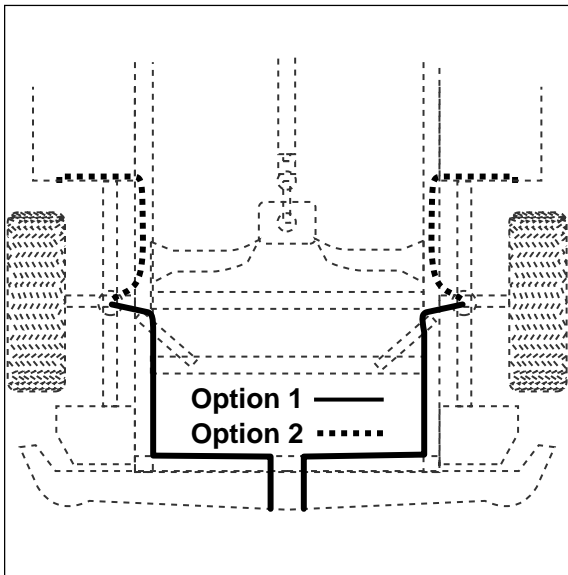
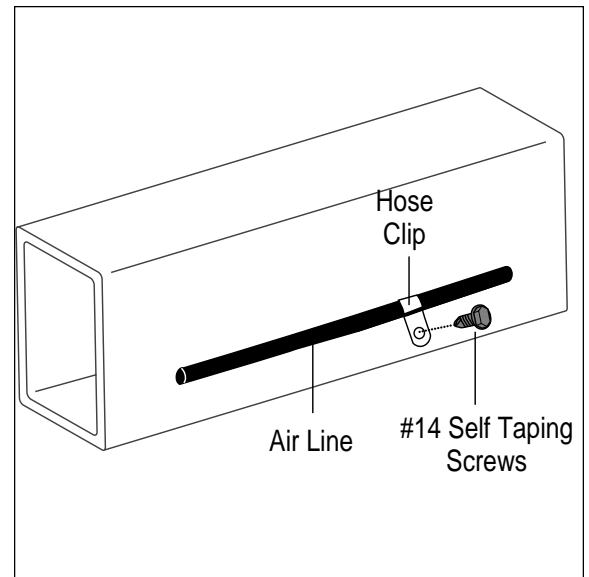

Figure 5
Figure 7
1. Select a location for the inflation valves in the rear bumper area or rocker panel flange ensuring that each valve will be protected and accessible with an air hose (Figure 5).
3. Route air line along frame from the inflation valve location to the air springs (Figure 5). Use the tie straps or provided clips and self tapping screws to attach the air line to the frame rail (Figure 7). It is not necessary to drill a hole for this type of self tapping screw. Simply drive the screw through the frame section. Attach air line to chassis with the provided plastic straps.
1. **VERY IMPORTANT:** With the bottom and top still loose, inflate the air spring to approximately 10 p.s.i. By using the slotted adjustment in the lower bracket, align the air spring so that there is a symmetrical cushion of air around the lower base. This can be accomplished by pressing all around the air spring and tapping it inboard or outboard for proper alignment (Figure 7).